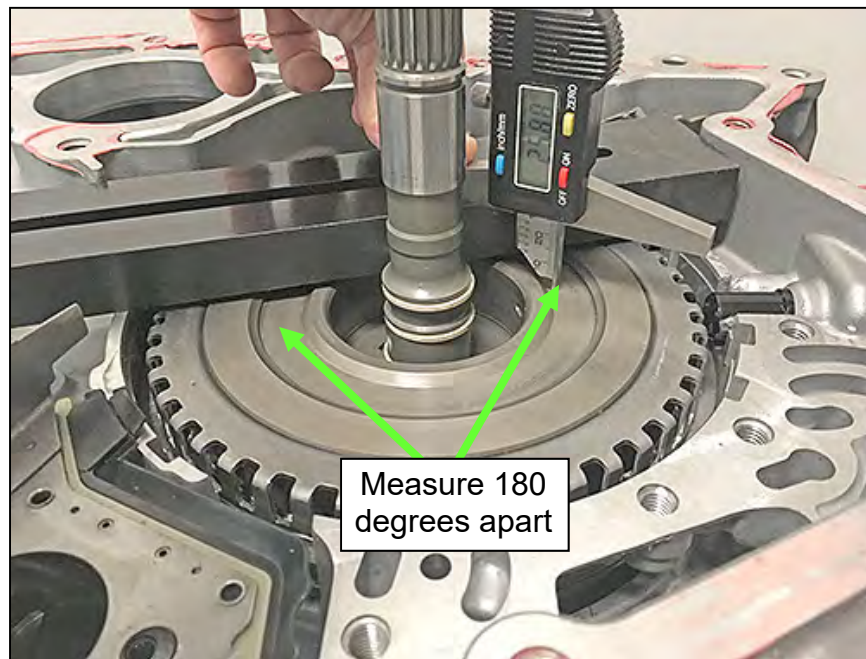

Figure 144
- d. Carefully slide the gauge down until it bottoms out on the upper surface of the clutch drum where thrust bearing seats, where shown in Figure 144. Write this measurement as **D1** (use millimeters).